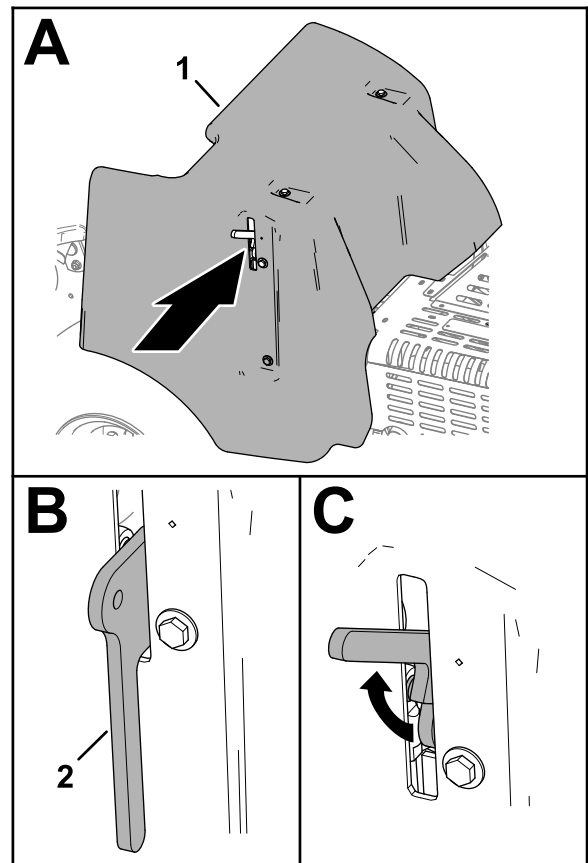

**Figure 141**
1. If your machine has the CE belt-cover latch lanyard, loosen the lanyard bolt until it separates from the cover latch (Figure 141).